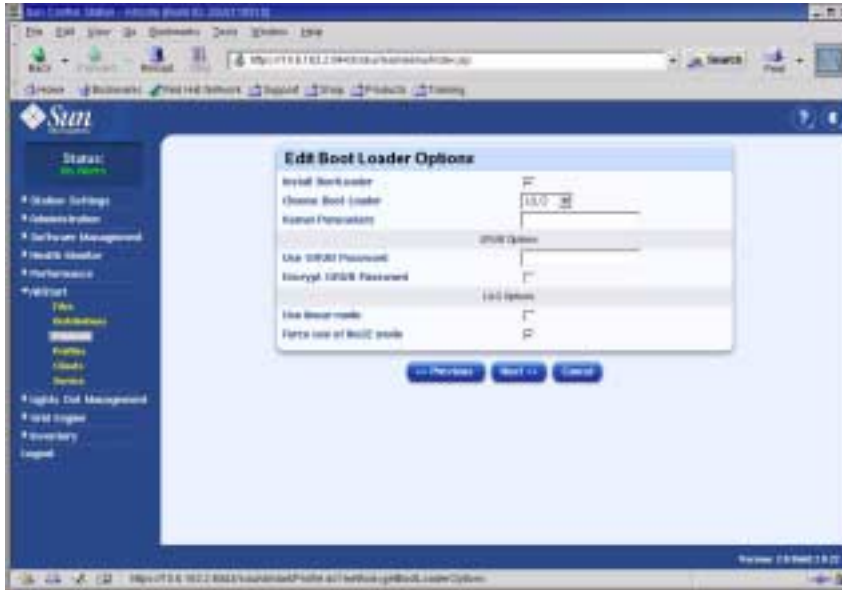

FIGURE 2-10 Edit Boot Loader Options Window (AllStart Profiles)
b. In the Edit Boot Loader Options window, verify that the following required entries are selected (see FIGURE 2-10 for an example). Click Next when you are finished.